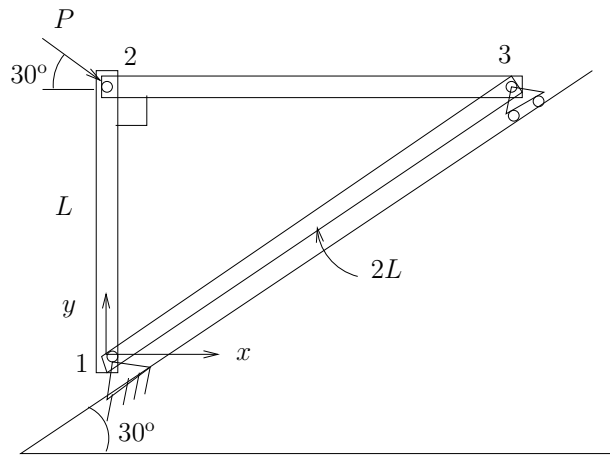

Figure 1: Three-bar truss.
2. A three-bar truss sits on a 30° incline as shown in Fig. 1. All members have the same Young modulus and cross sectional area E and A . Member 1-2 is vertical, member 2-3 is horizontal and member 1-3 is parallel to the incline. The lengths are as shown. All joints are frictionless pin-joints. Node 1 is fixed, while node 3 is on roller supports as shown. (40)